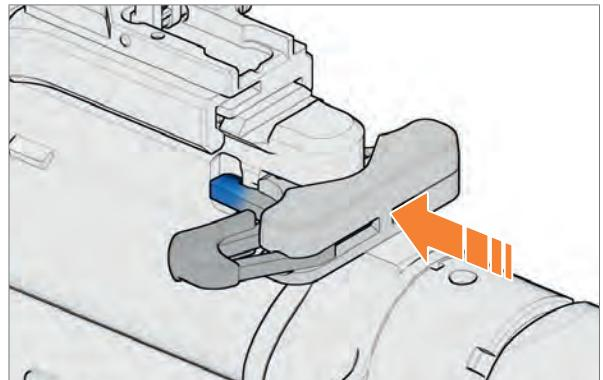

Fig. 22: Lock charging handle
- Push charging handle all the way forwards and lock it (Fig. 22).